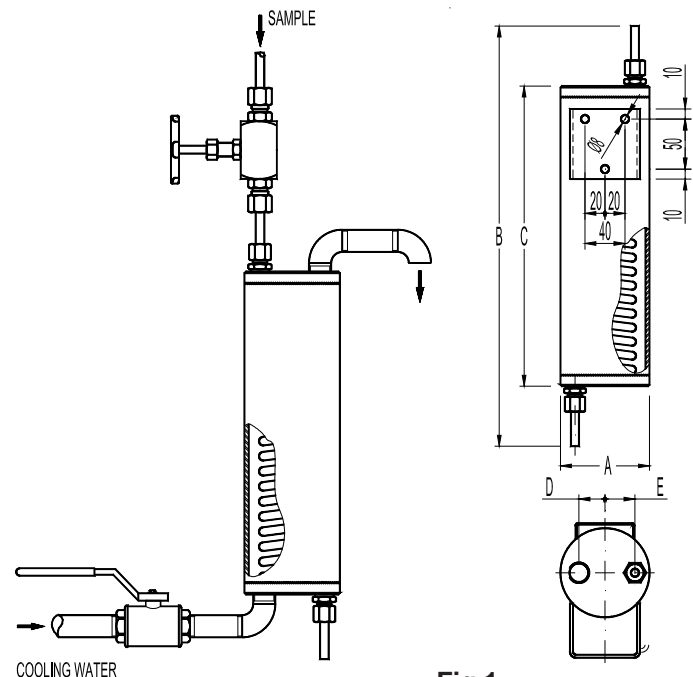

Fig.1
4. A stop valve DN 1/2" (in SC32 - SC132 models) and DN3/4" (in SC232 model) is necessary on the inlet cooling water and a DN 1/4" needle valve is also needed on the sample inlet (see Fig.1).